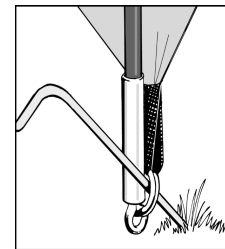

Figure 2.
- Peg the corners of the tent through the metal rings using pin-pegs. It is important to drive the peg into the ground at a 45 degree angle to obtain the best grip. (See Figure 2).